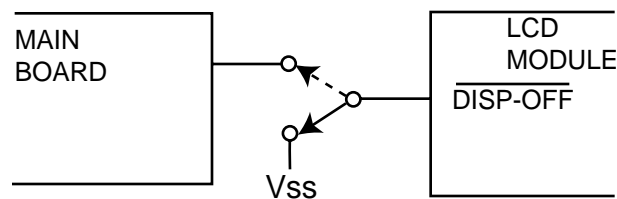

Fig. 12-6
2. Keep $\overline{\text{DISP-OFF}}$ terminal connected to V_{SS} as shown in Fig. 12-6.